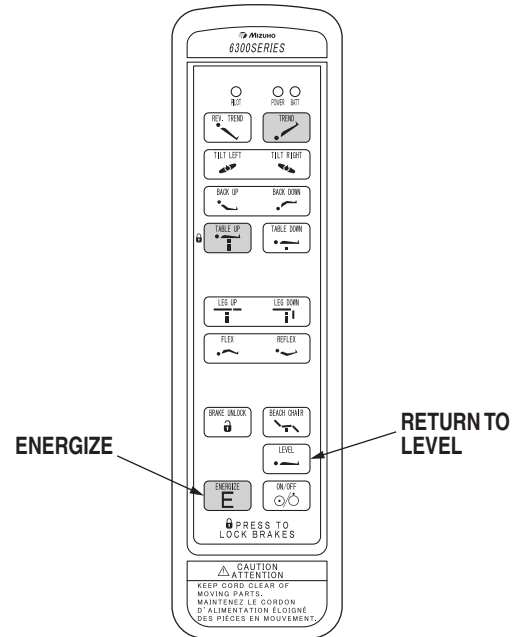

Figure 2-14. Return to Level
h. Return To Level To return the table top to a level position, press the ENERGIZE button and then the LEVEL button (figure 2-14).